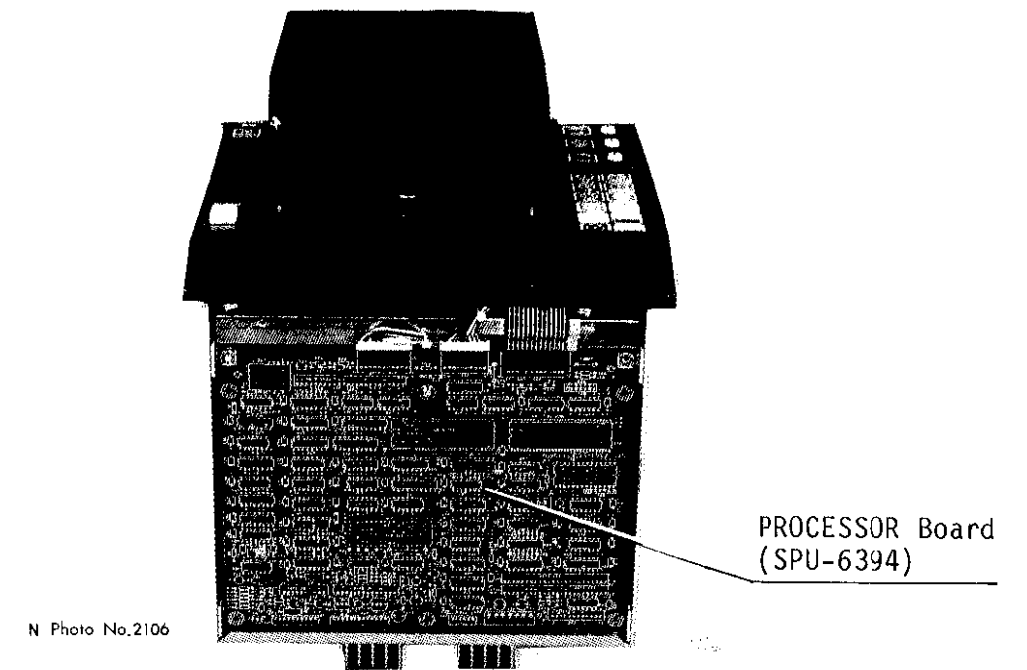

Fig.4-3 Display Unit
4. PROCESSOR board (Fig.4-3)
Sweep rotation is not synchronized with antenna rotation.	1. Bearing signal generator (Scanner unit) 2. PROCESSOR board (Fig.4-3)